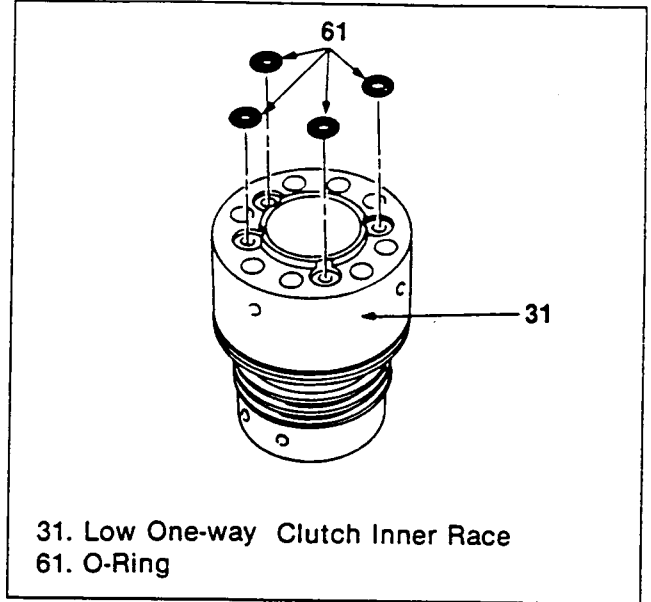

Figure 53. Low One-way Clutch Inner Race O-ring Removal
2. Remove the O-rings (4 pcs) (figure 53).